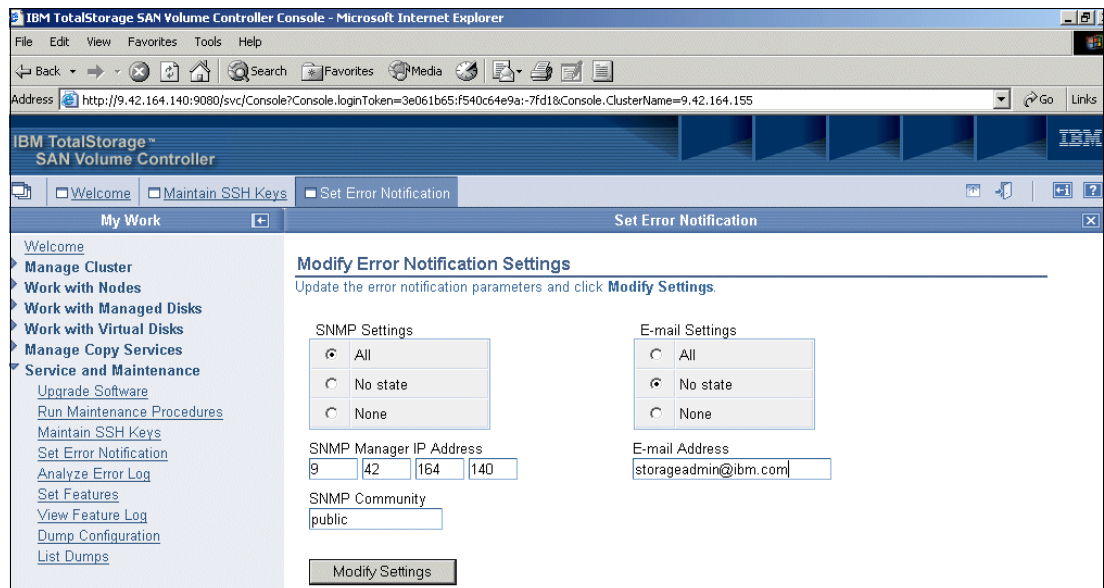

Figure 9-89 Setting error notification
2. On the Modify Error Notification Settings panel (Figure 9-89), select the level of notification (default is None) to apply to both SNMP and e-mail alerting. Type the IP address of your SNMP Manager and the e-mail address to which to forward alerts. Click **Modify Settings**.